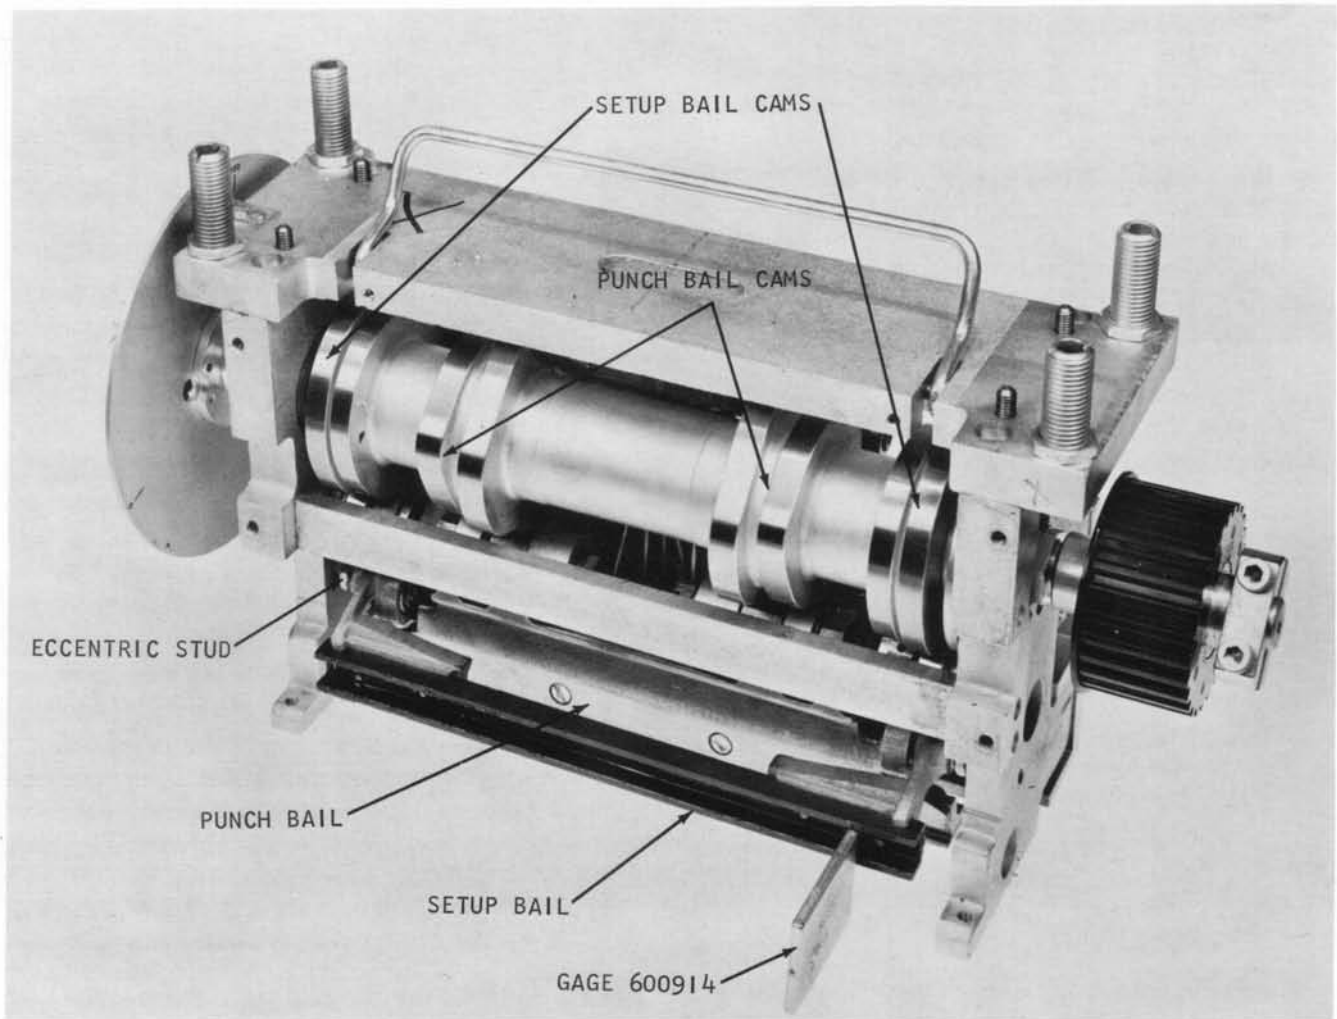

Figure 44. Drive Unit
1. The drive unit (Figure 44)
### Cam Follower Assembly Adjustments (Figure 44)
### Interposer Setup Bail Adjustments (Figure 44)
5. Turn the punch drive unit cam shaft until the setup bail rests on top of the gage (Figure 44). Make a note of the index setting.